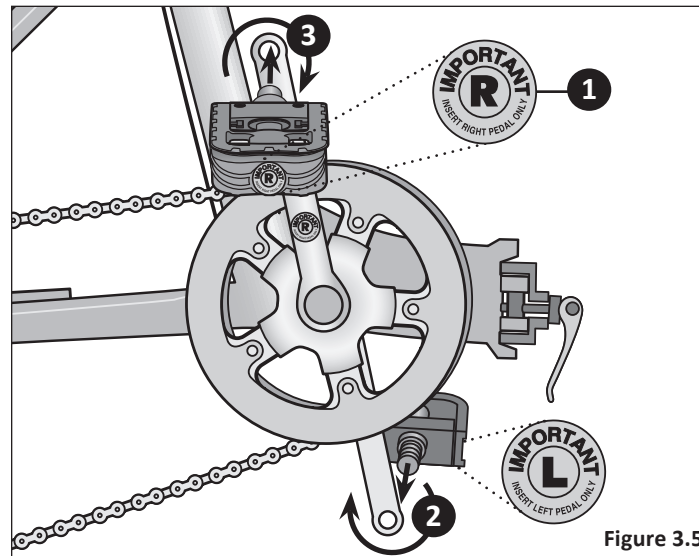

Figure 3.5
- 1 Match the pedal marked R with the right-hand crank arm, and match the pedal marked L with the left-hand crank arm. **Figure 3.5**